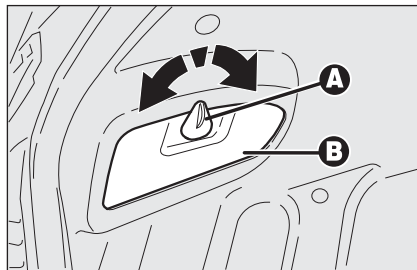

fig. 33
- turn device **A-fig. 33** to open lid **B**;
- close lid **B-fig. 33**.